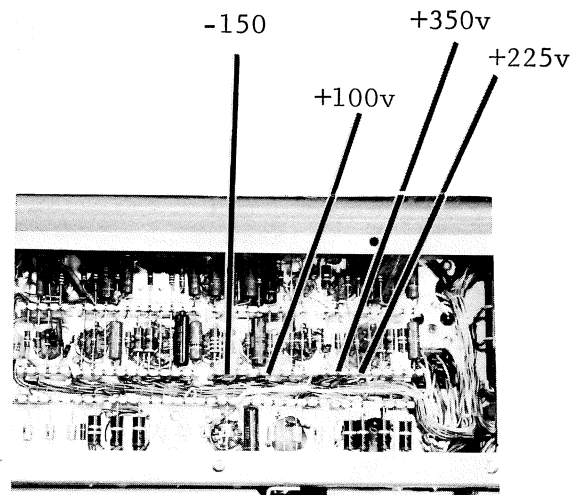

Figure 4
B. Check the other power supplies for correct voltages. (see Figure 4)